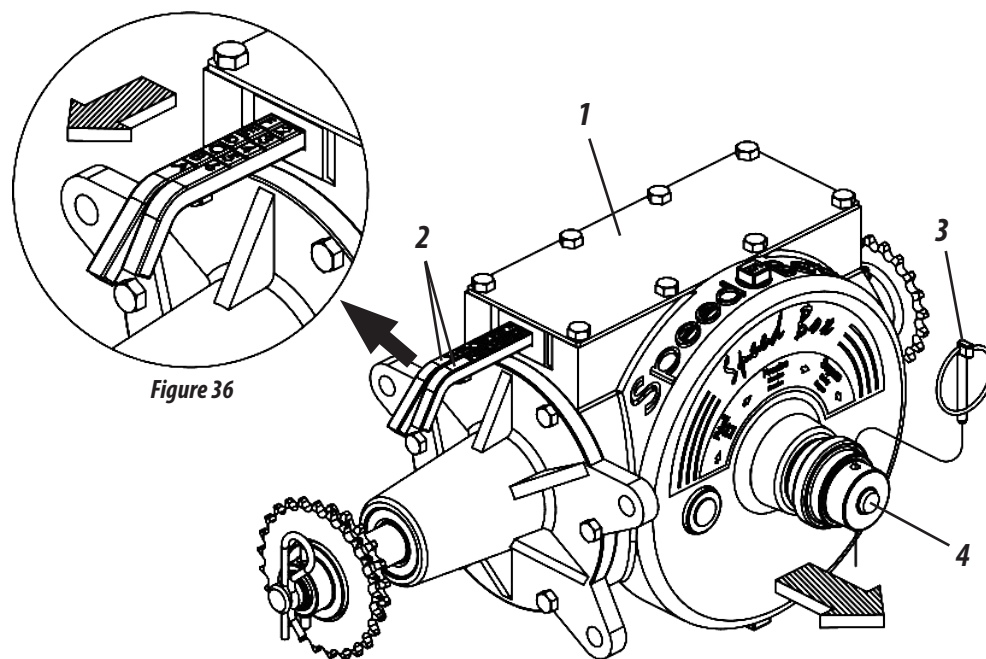

Figure 36
### SPEED BOX (FIGURE 36)
- 1- Select the desired quantity in the tables and check the corresponding combination on the levers (2). **Example:** Position **F2** in the table, indicates that the lever with letters must be in the “**F**” position and the lever with numbers must be in the **2 position, as shown in figure 36.**
- 2- To move the levers, remove the lock (3) pull the handle (4) then adjust the levers according to the example above. When combining is complete, return the handle (4) and replace the lock (3).